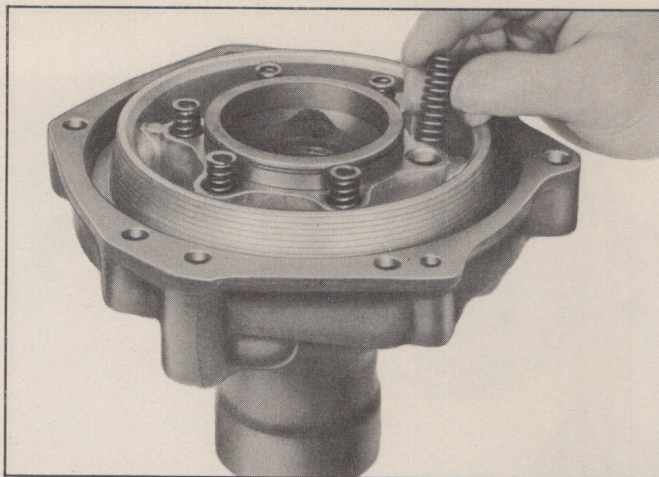

Fig 266—Installing Reverse Clutch Release Springs
14. Install the six reverse clutch release coil springs (Fig. 266).